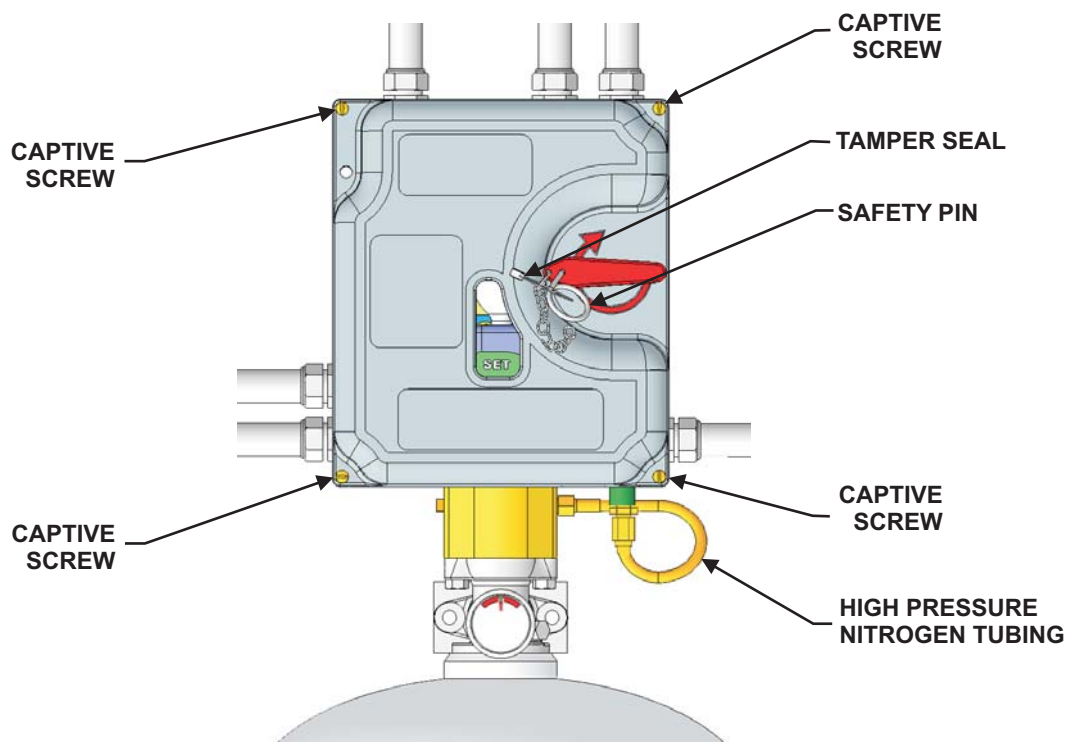

Figure 4-86. Cylinder Mounted XV Control System
20. Secure the High Pressure Nitrogen Tubing back onto the bottom of the XV Control System. Ensure that the fit is properly snug to prevent leakage. Refer to Figure 4-86.